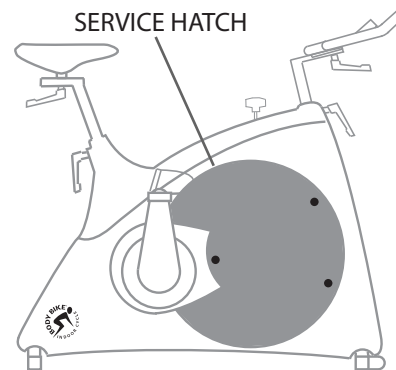

Figure 14
1: Remove the right service hatch by loosening the locks with the coin, see figure 14.
1: Remove both service hatches by loosening the locks with a coin, see figure 14.
- 1: Remove the service hatch on both sides of the cycle by loosening the three locks with a coin, see figure 14.